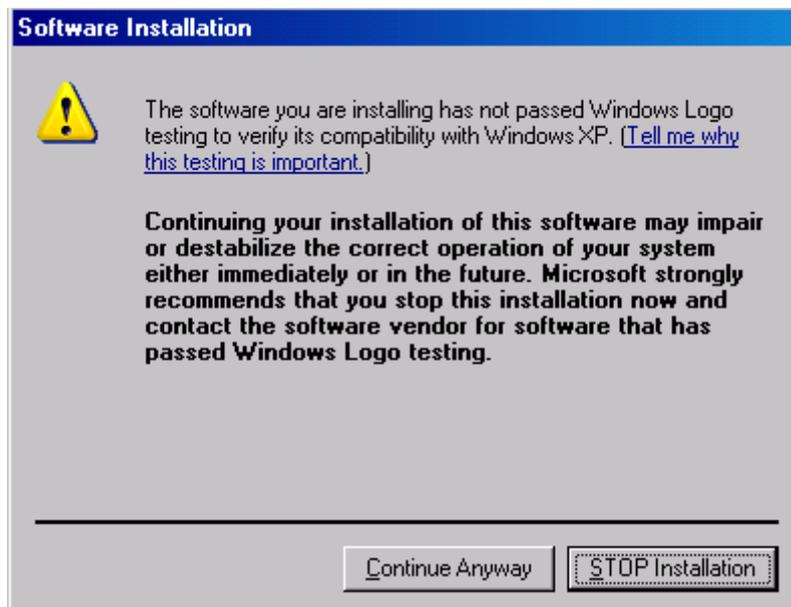

Figure 3.3-2 Confirmation Dialog of USB Driver Installation (2)
3. For Windows XP, Figure 3.3-2 is displayed when the installation is in progress.
The screen as shown in Figure 3.3-2 may not be displayed on the front page. If software installations take a long time, check that the screen as shown in Figure 3.3-2 is hidden at the back of the other screen.